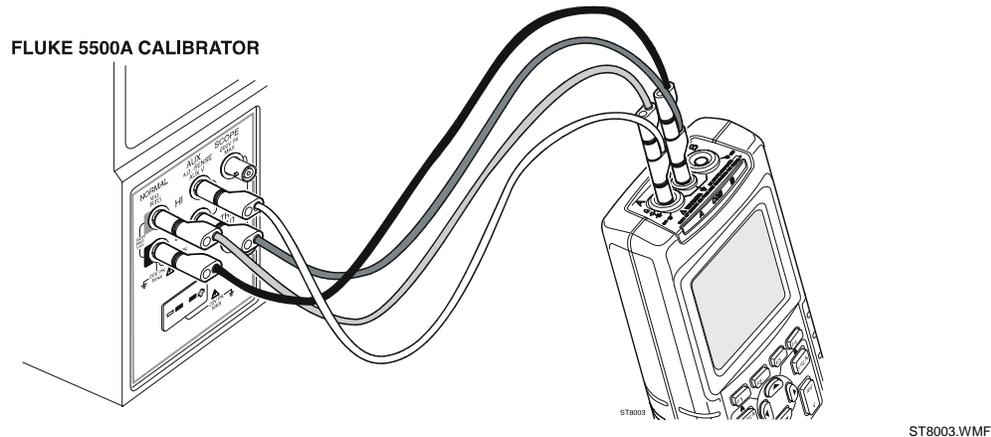

Figure 4-8. Four-wire Ohms calibration connections
2. Connect the UUT to the 5500A as shown in Figure 4-8.